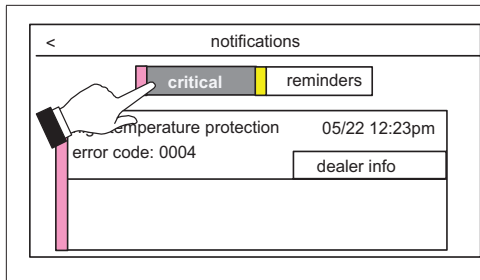

Figure 5. Critical Notifications
- If critical errors occur, they will also be displayed under notifications as illustrated in figure 5.